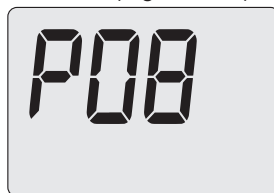

Figure 5.35
- Press 13 and hold until the LCD display shows the code **P08**, indicating entry into “parameter P08” (Figure 5.35).
- Press 12 or 13 (Figure 5.31) to confirm the value entered and return to the list of parameters (Figure 5.35).